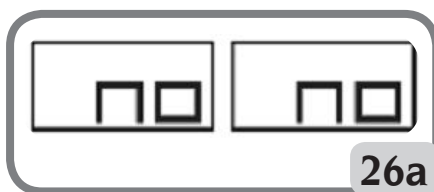

Figure 26a Hidden Weights: procedure error
- 3 Press  to enable the Hidden Weights programme. If the user tries to select this programme without previously selecting an ALUP programme, the message "A 26" is displayed. If the wheel is balanced on the outer side, the machine displays the message shown in Fig. 26a.
6 If the angle selected is greater than 120° , the machine displays the message shown in Fig. 26a for approximately 3 seconds to indicate that another position must be chosen. If the angle selected is less than 120° , the machine displays the message shown in Fig. 26c, allowing the user to continue to the next step.